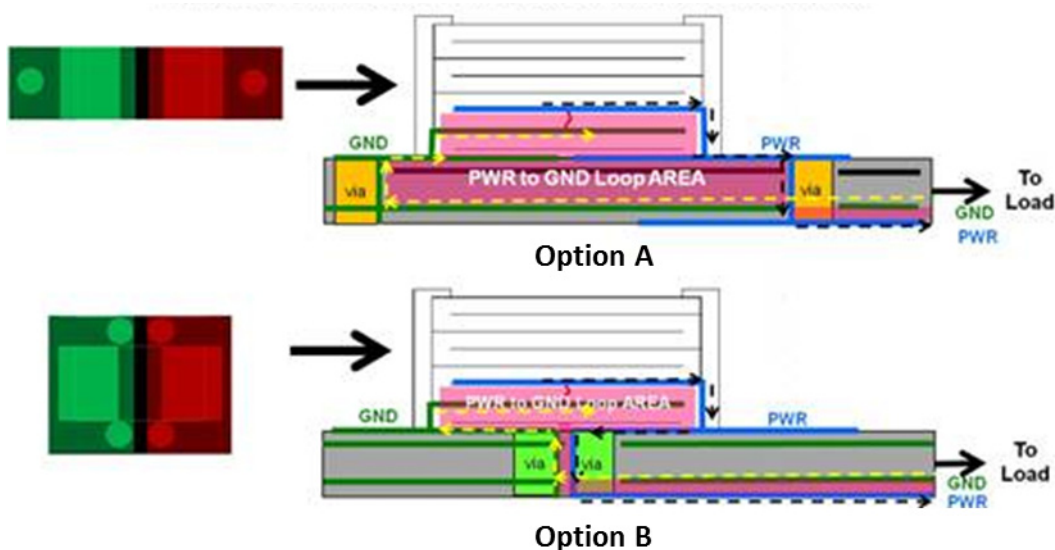

Figure 12. MLCC via Placement Influence on Loop Area
- a. Some amount of capacitance required by power supply (VR) for stable operation. That should be placed in proximity to the VR. In case of a switching power supply, place a capacitor close to the inductor for ripple currents.
9. Use optimal via placements next to the capacitor power and ground pads to transfer current directly to the power and ground planes. This optimizes capacitor performance and also helps in reducing loop area. In Figure 12, the Option B is a desirable configuration to minimize loop area.